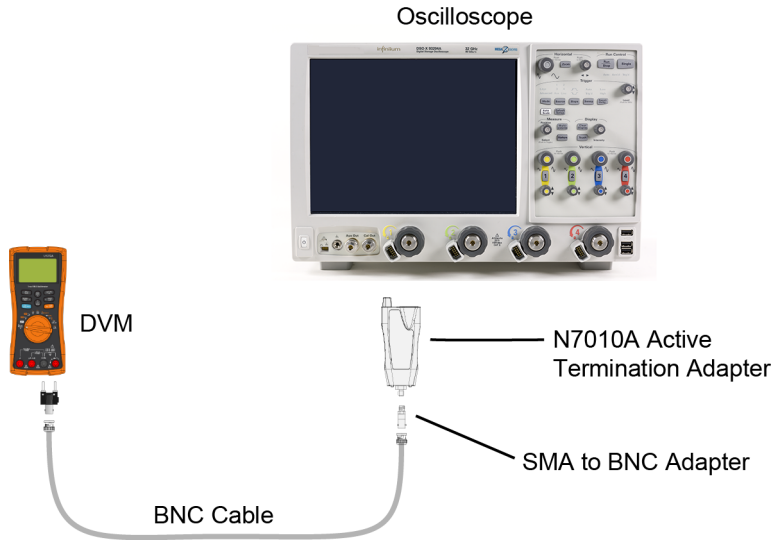

Figure 15 Input Resistance at DC Test Setup
- 4 Connect the BNC cable to the N7010A using the SMA (m) to BNC (f) adapter as shown in Figure 15 on page 35.